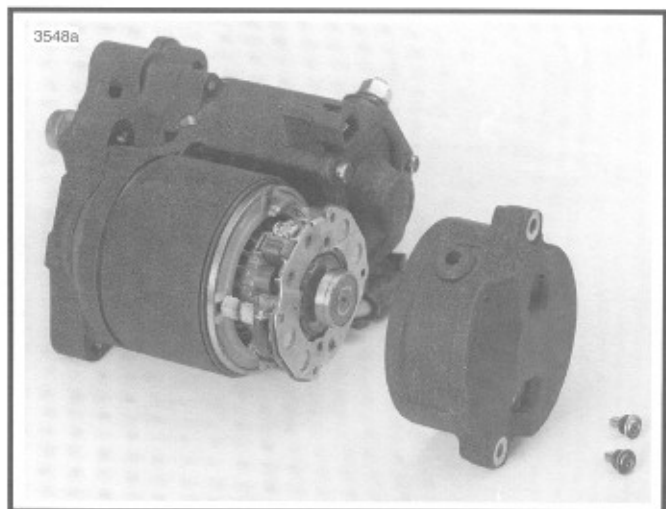

Figure 5-10. Removing End Cover
3. See Figure 5-10. Remove two cover screws, O-rings, and cover.